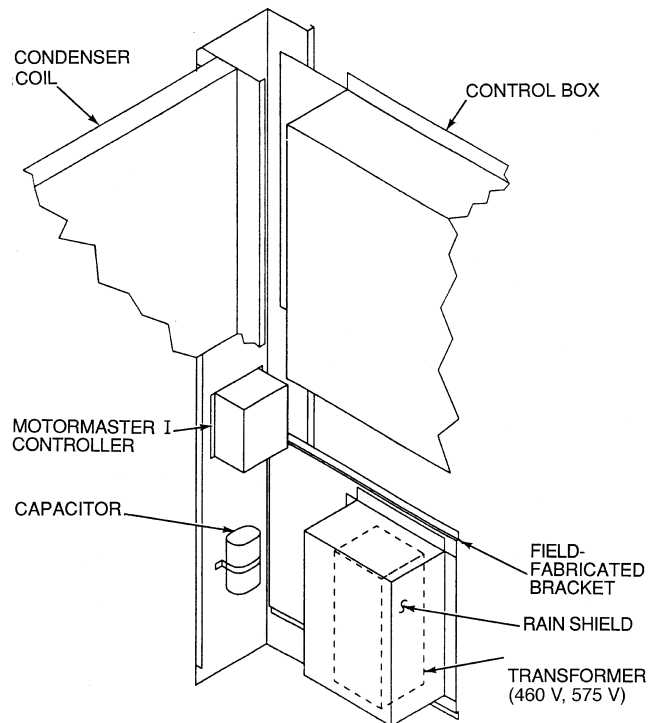

Fig. 4 — Mounting Motormaster® I Controller, Capacitor, and Transformer; Size 034-048 Units
Drill holes and mount the capacitor with terminals pointing up using capacitor strap, boot, and screws. See Fig. 4 and 5.
- Mount transformer (see Fig. 4 and 5) using field-drilled holes.